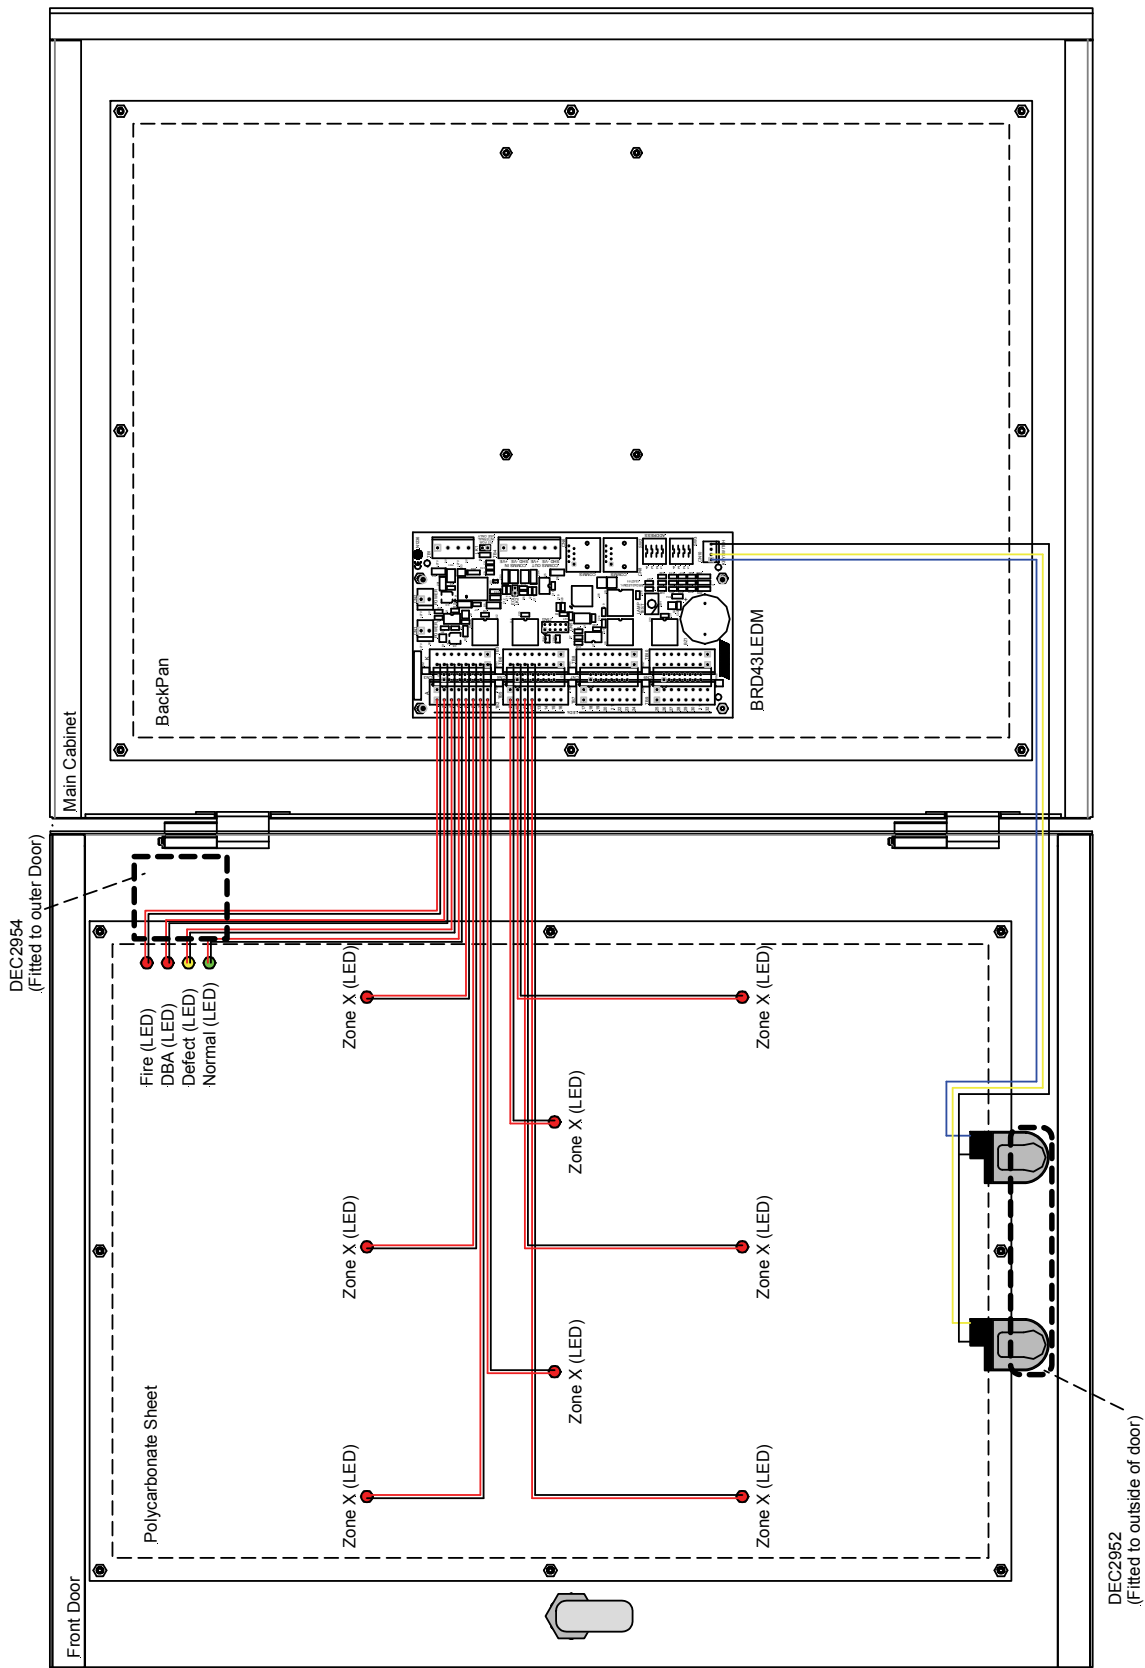

Figure 3: Front Service Mimic Panel General Layout
4. Mount the PCB on the appropriate standoffs. Note: The position of the board will depend on the mounting of the cabinet. I.e. Front Service or Rear Opening (see Figure 3 & 4)
6. Fit the Trial Evac Key and Silence Alarm Key and connect to CN10 on the PCB (see Figure 3 & 4)